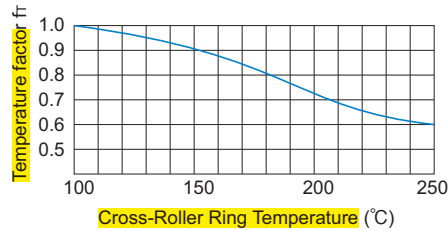

Fig.1 Temperature Factor (f_T)
- f_T : Temperature factor (see Fig.1)